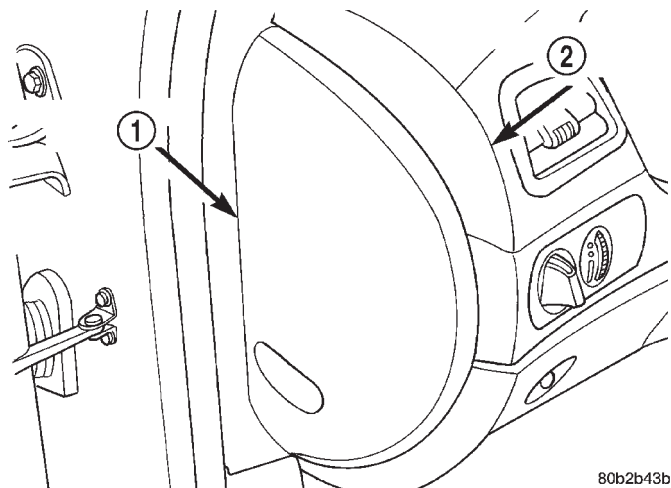

Fig. 66 Fuse Panel Cover
- (1) Remove the fuse panel cover from the left end of the instrument panel (Fig. 66).
(12) Install the fuse panel cover on the left end of the instrument panel (Fig. 66).